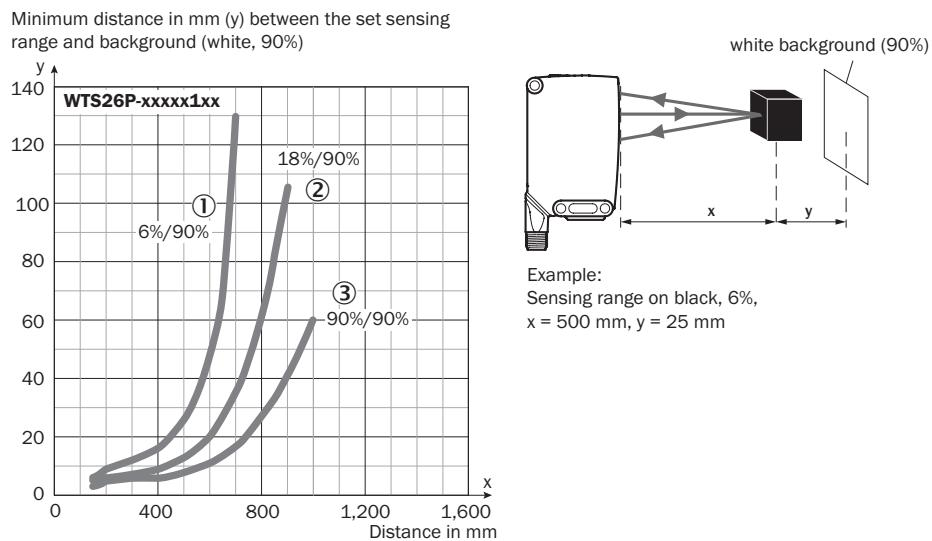
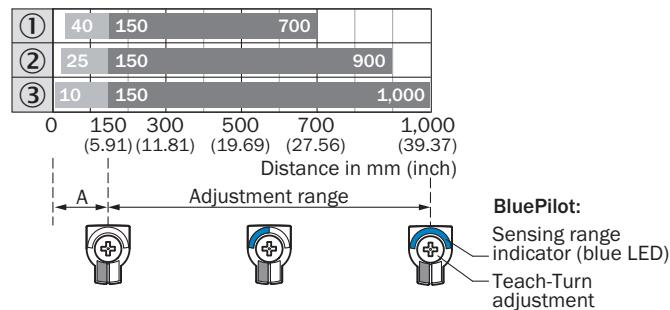

Figure 2: Characteristic line 1
Figure 3: Bar graph 1
Check the application conditions: Adjust the sensing range and distance to the object or background as well as the remission capability of the object according to the corresponding diagram [figure 2, figure 3] ( $x$  = sensing range,  $y$  = minimum distance between set sensing range and background [white 90%]). Remission: 6% = black ①, 18% = gray ②, 90% = white ③ (referring to standard white as per DIN 5033). We recommend that the adjustment be performed with an object of low remission.
The minimum distance (=  $y$ ) for the background suppression can be determined from the diagram [figure 2 ①] as follows: